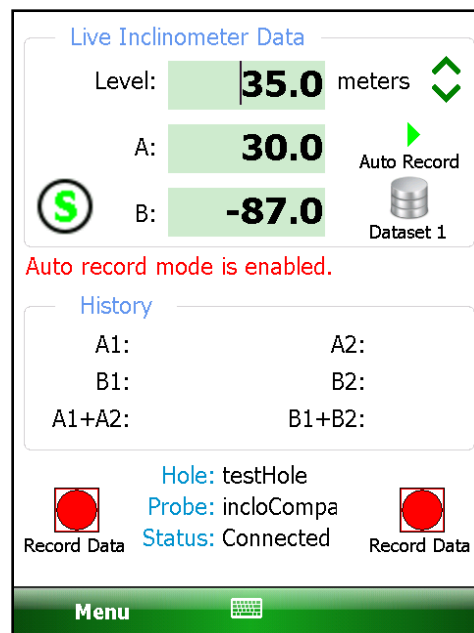

Figure 71 - Auto Record Enabled
If this selection is set to “Enable”, upon entry into the “Live Readings” screen, the “Auto Record” feature will be enabled (Figure 71).
- 1) Tapping on the “Live Readings” menu item displays the screen shown in Figure 71).